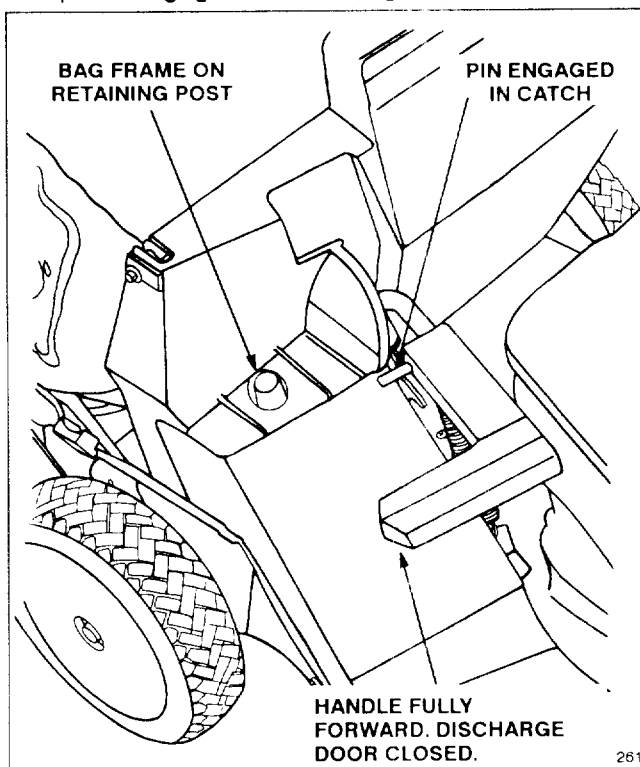

Figure 15
2. Ensure discharge door handle is fully forward and pin is engaged in catch (Fig. 15).
3. **INSTALLING BAG**—Slide hole in bag frame onto retaining post on discharge tunnel (Fig. 15). Set rear of bag frame onto lower handle
5. **EMPTYING BAG**—Stop engine and wait for all moving parts to stop. Raise discharge door handle and move it forward to engage the locking pin with catch (Fig. 15). Grasp handles at front and rear of bag and lift bag off mower. Gradually tip bag forward to empty clippings.